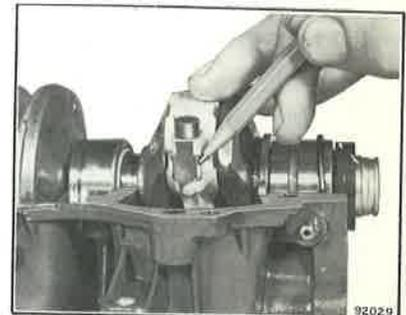

Figure 5-25. Checking Connecting Rod Cap Alignment
f. With roller bearings in place, attach connecting rod caps. Connecting rod caps are not interchangeable with those of other rods, neither may the caps of the same rods be turned end for end. To assist correct assembly, small raised dots are provided on matching sides of rod and cap. Draw a pencil over chamfered corners on both sides of rod to make certain that cap and rod are aligned at this point. If not aligned, chamfered corners can be felt with the pencil point. See Figure 5-25. Misalignment will affect free normal action of the rollers, and may result in damage later on. See Figure 5-26.